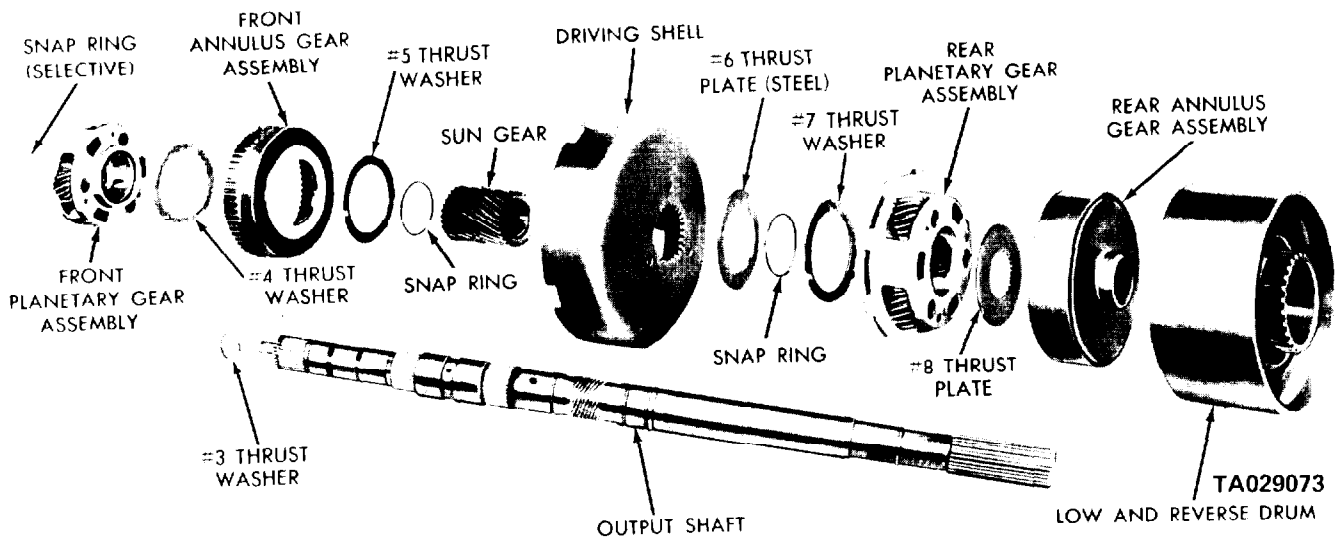
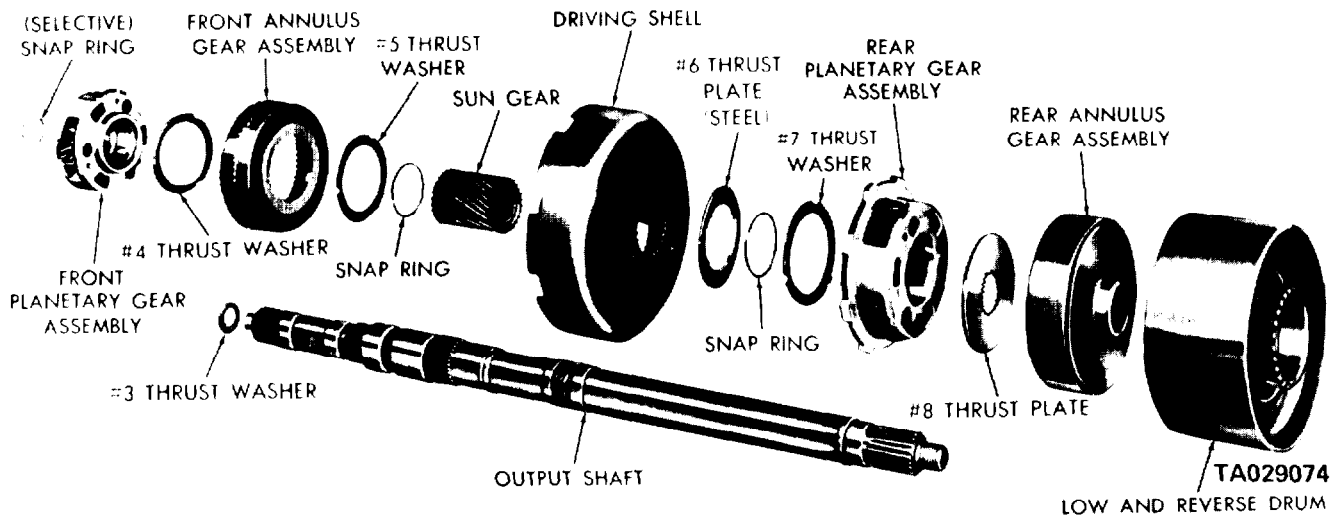
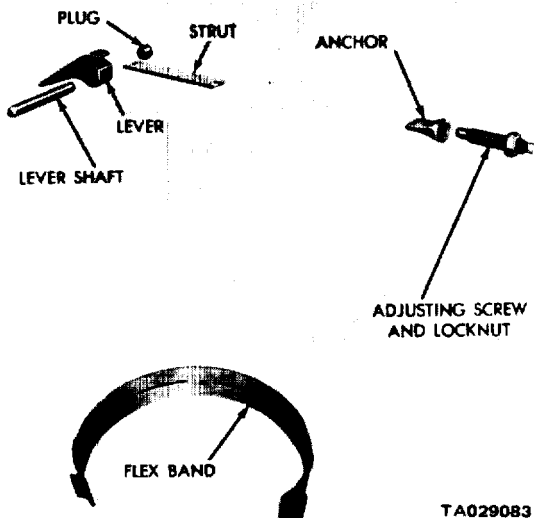

Figure 18-22. Planetary Gear Train and Output Shaft (4X2 Models).
Figure 18-23. Planetary Gear Train and Output Shaft (4X4 Models).
Figure 18-32. Kickdown Band and Linkage.
(1) Remove the thrust washer from the forward end of the output shaft (figure 18-22 for 4X2 models and figure 18-23 for 4X4 models).
(2) Remove the selective snap ring from the forward end of the output shaft. Slide the front planetary assembly off the shaft.
(3) Slide the front annulus gear off the planetary gear set. Remove the thrust washer from the rear side of the planetary gear set.
(4) Slide the sun gear, driving shell, and rear planetary assembly off the output shaft.
(5) Lift the sun gear and driving shell off the rear planetary gear assembly. Remove the thrust washers from inside the driving shell. Remove the snap ring and steel washer from the sun gear (rear side of the driving shell) and slide the sun gear out of the shell. Remove the front snap ring from
- (1) Inspect the bearing surfaces on the output shaft for nicks, burrs, scores, or other damage. Light scratches, small nicks, or burrs can be removed with crocus cloth or a fine stone.
- (2) Check the speedometer drive gear for any nicks or burrs. Remove them with a sharp-edged stone.
- (3) Make sure all oil passages in the shaft are open and clean.
- (4) inspect the sun gear bushings for wear or scores. Replace the sun gear assembly if the bushings are damaged.
(5) Inspect all thrust washers for wear and scoring. Replace them if they are damaged or worn beyond the limits given in table 18-3.
(6) Check the planetary gear carrier thrust faces for wear, scores, or other damage. Replace as necessary.
(7) Check the planetary gear carrier for cracks. Look for worn or broken gear teeth on the pinion lockpins.
(8) Inspect the annulus gear and driving gear teeth for damage.
(9) Replace distorted lockrings.
d. Assembly. See figure 18-23 for parts identification.
(1) Install the rear annulus gear on the output shaft. Apply a thin coat of grease on the thrust plate. Place it on
f. *Front and Rear Clutch Assemblies.* The front and rear clutches, front band, oil pump, and reaction shaft support are more easily installed with the transmission in an upright position. One method to support the transmission is outlined in steps (1) and (2), below.
(1) Cut a 3-1/2-inch diameter hole in a bench, in the end of a small oil drum, or in a large wooden box strong enough to support the transmission. Cut or file the notches at the edge of the hole so the output shaft support will lay flat in the hole.
(2) Carefully insert the output shaft into the hole to support the transmission upright, with its weight resting on the flange of the output shaft support.
(3) Apply a coat of grease on the input to output shaft thrust washer (figures 18-22 and 18-23), and install the washer on the front end of the output shaft.
(4) Align the front clutch plate inner splines, and place the assembly in position on the rear clutch. Make sure the front clutch plate splines are fully engaged on the rear clutch splines.
(5) Align the rear clutch plate inner splines. grasp the input shaft, and lower the two clutch assemblies into the transmission case.
(6) Carefully work the clutch assemblies in a circular motion to engage the rear clutch splines over the splints of the front annulus gear. Make sure the front clutch drive lugs are fully engaged in the slots in the driving shell.
g. *Front Band.* Figure 18-32 shows a disassembled view of the kickdown band assembly. Assemble as follows:
(1) Slide the band over the front clutch assembly
(2) Install the band strut, and screw in the adjuster just enough to anchor the strut in place.